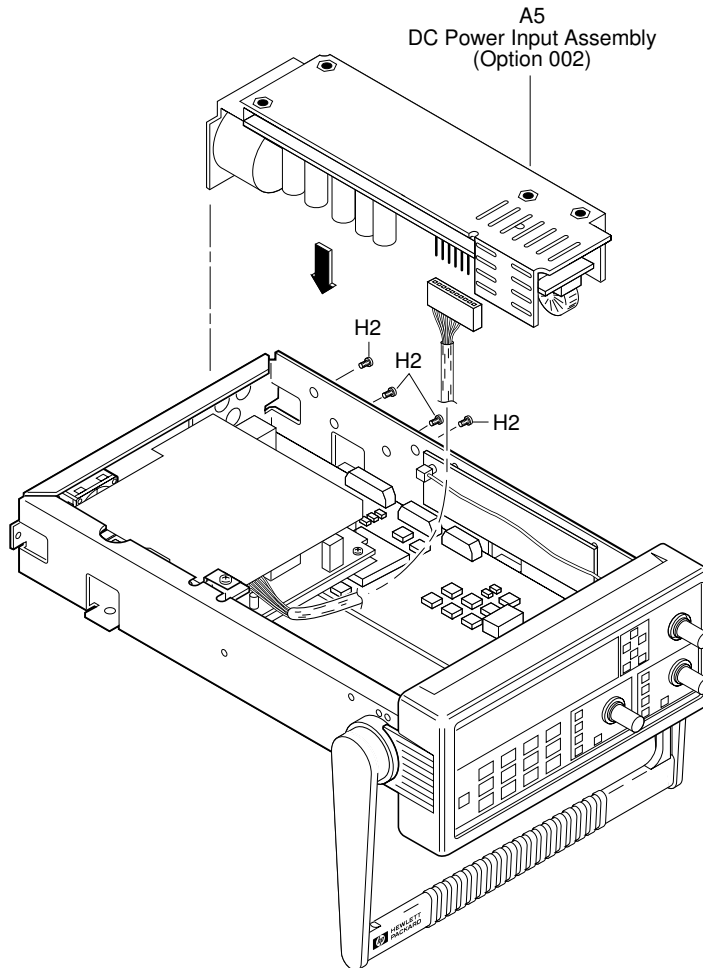

Figure 4-1C. DC Power Input Assembly Retrofitting
- a. First, connect the other ac power supply cable to the connector on A5 printed-circuit board as shown in Figure 4-1C.
- c. **Using the four TORX 10 screws (H2), secure A5 DC Power Input Assembly to the side of the chassis (MP10) as shown in Figure 4-1C.**